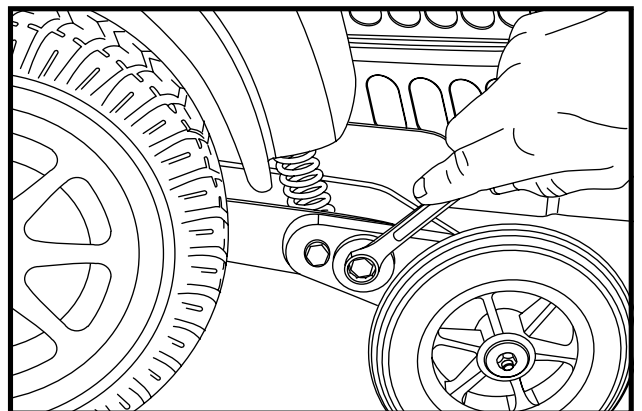

Figure 24. Anti-Tip Adjustment (Cam)
4. To adjust the anti-tip upward, turn the cam counterclockwise. To adjust the anti-tip downward, turn the cam clockwise. See figure 24.